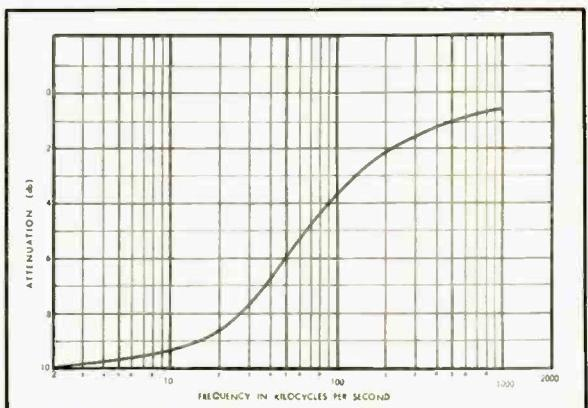

Fig. 11. Response of corrective emitter network to compensate for normal high-frequency droop of transistor.
Fig. 11, the corresponding attenuation from maximum gain has been plotted against frequency for a network having a crossover point of 25,000 cps. Since the maximum slope at any part of this curve is only 8 db per decade, a casual inspection might lead one to suppose that the device is not particularly suitable but (1) more slope may be obtained by increasing the value of the emitter resistor and (2) the actual corner of the alpha/frequency characteristic is somewhat more rounded than its *RC* analogy because of dispersion of charge carrier transit time, non-planar geometry, and so on. This effect mitigates the severity of the original problem of correcting the response to 20,000 cps although, for a band appreciably wider than this, it would be preferable to use r.f. transistor types.